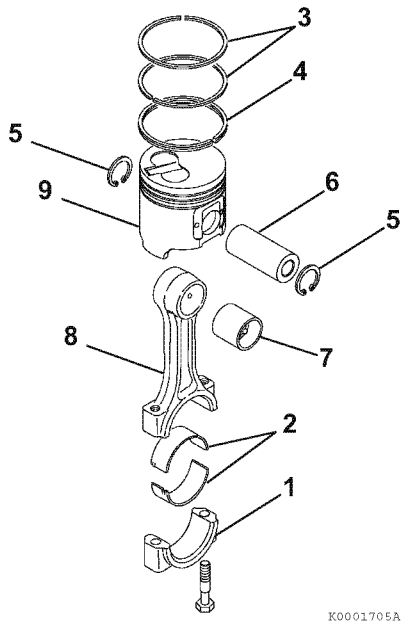

Figure 6-85
2. If removed, install a new wrist pin bushing (7, **Figure 6-85**) using a press and the appropriate service tool. Be sure to align the oil holes.
3. Reinstall one circlip (5, **Figure 6-85**) into the piston. Ensure the circlip is securely seated in the groove.